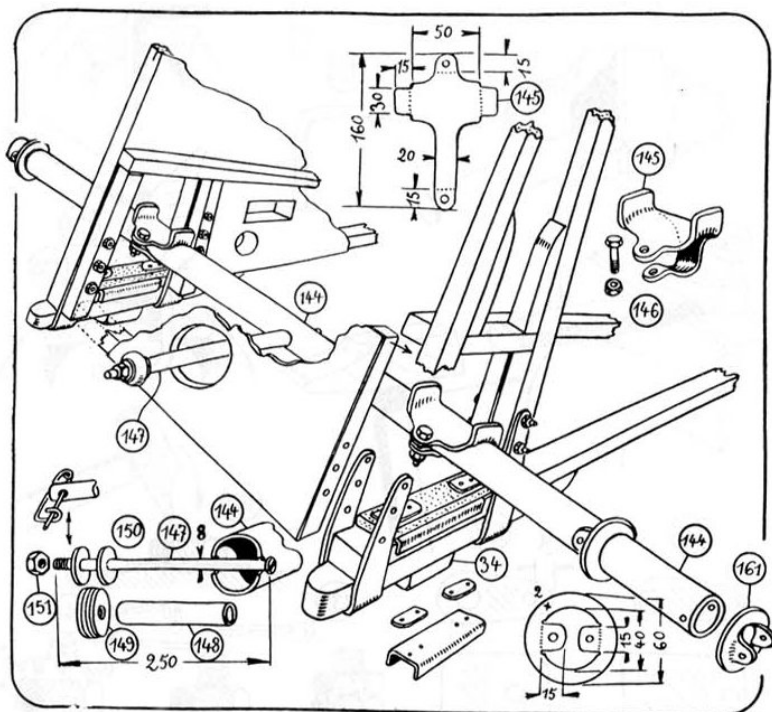

Figure 3.21: The axle and its placement
The axle is a  $36 \times 40$  tube (144) (fig. 3.21) 1200mm long, filled with another reinforcing tube,  $31 \times 35$  800mm long. This is 4mm thick in total, and weighs 4kg 300g. It is heavy — very heavy. But it's solid! The axle won't bend. You won't have to worry about beating your landing gear into a curve rolling over the clods. Do not repeat the author's mistakes — *only one tube is not enough*.
3I am unable to find this reference number on any drawing, but (161) is in Fig. 3.21, and includes layout details for the washer collar in question.